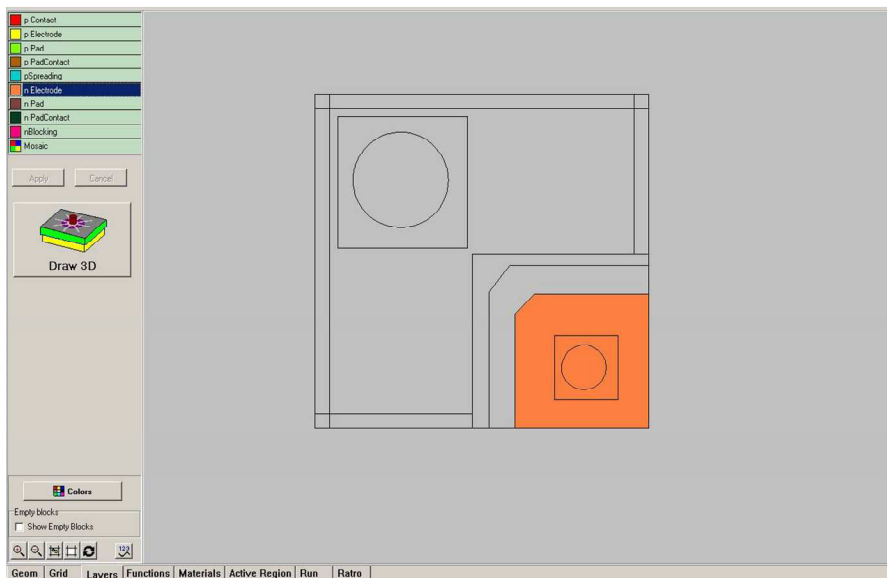

Fig. 24
***n-electrode.*** Area of the metal n-electrode (see Fig. 24). This layer should lie inside etched mesa, i.e. outside of the p-semiconductor layer.